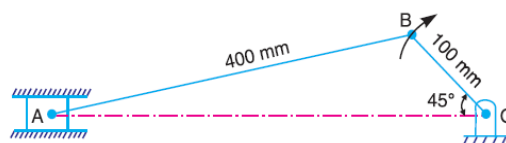

Fig. 6.12
8. Locate all the instantaneous centres of the slider crank mechanism as shown in Fig. 6.12. The lengths of crank  $OB$  and connecting rod  $AB$  are  $100$  mm and  $400$  mm respectively. If the crank rotates clockwise with an angular velocity of  $10$  rad/s, find: 10M